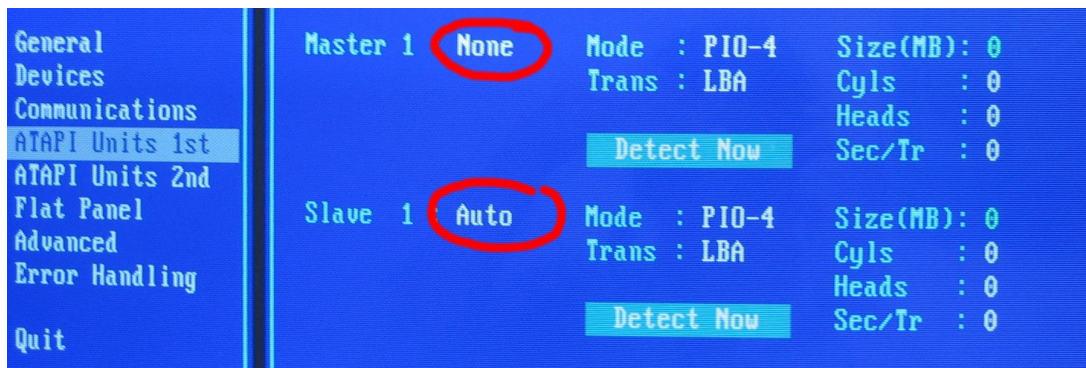

Figure 5.4: Bios setup
3. In the "ATAPI Units 1st" section of the main menu, set Master to "None" and Slave to "Auto" using PageUp and PageDown keys (see **Figure 5.4**);